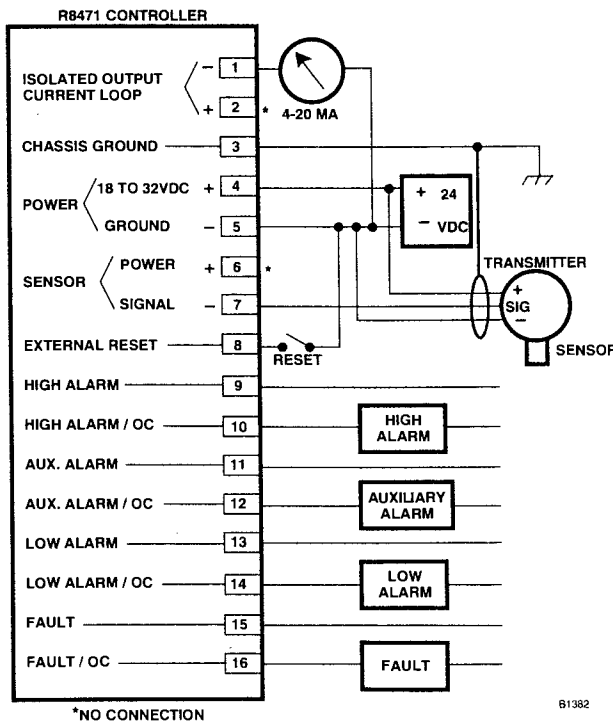
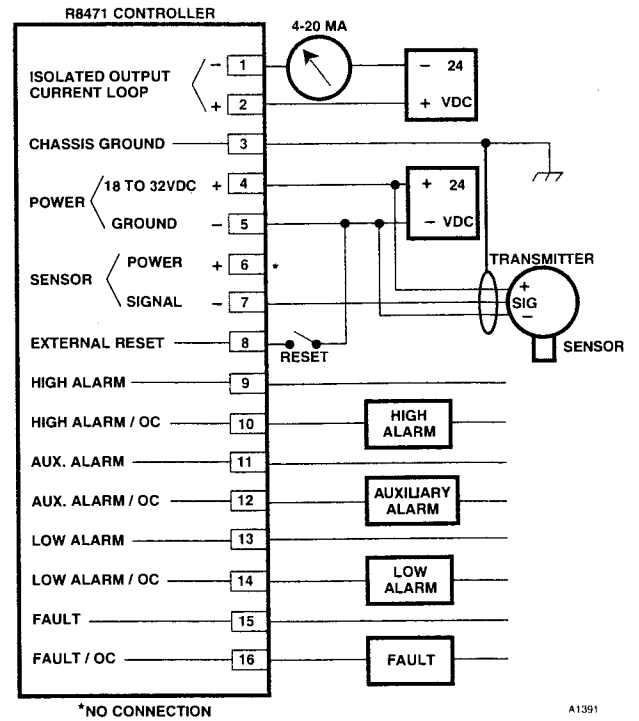

Figure 10—A Typical System with Relay Outputs and Non-Isolated Current Output
Figure 11—A Typical System with Relay Outputs and Isolated Current Output
**Non-Isolated Current Output** – If the 4 to 20 ma current loop is to be non-isolated, wire the system as shown in Figure 10. Note that terminal 2 is not used with a non-isolated current loop. Program the unit for a non-isolated current loop as described in the "Controller Programming" section.
**Isolated Current Output** – If an isolated current loop is desired, wire the system as shown in Figure 11 and program the unit for an isolated current loop as described in the "Controller Programming" section. Note that this wiring scheme requires an external power source for the isolated current output.
Isolated or non-isolated operation of the 4 to 20 ma output can be selected using a jumper plug at J1. For non-isolated operation, as illustrated in Figure 10, place the jumper plug in the INT (**internal** power source) position. Place the plug in the EXT position for an isolated circuit, as illustrated in Figure 11. The jumper is set at the factory for non-isolated operation.